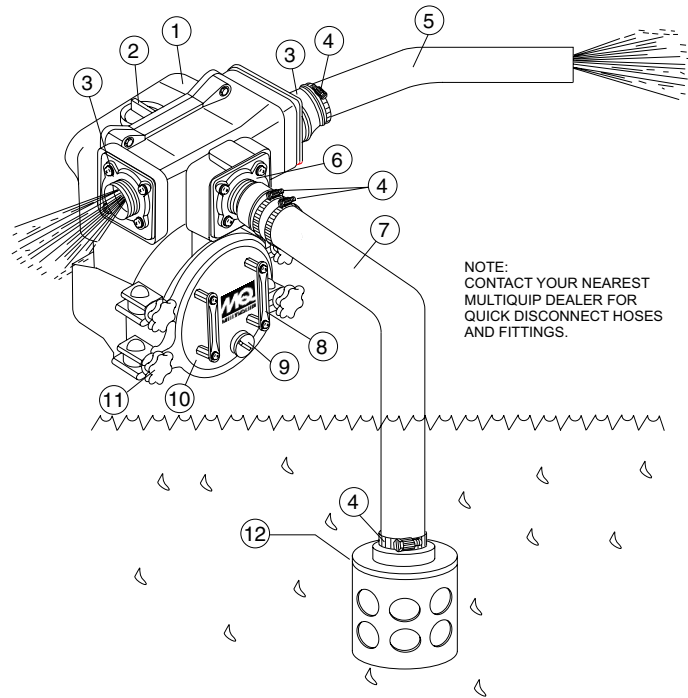

Figure 3. QP4TH Pump Application
Figure 3 shows a typical application using the QP4TH centrifugal pump. Please note that this pump is intended for the removal of clean water.
2. To prime pump, remove fill cap (See Figure 3) and fill pump casing with water. If the pump casing is not filled with water before starting, it will not begin pumping.
3. Attach suction and discharge hoses to the pump. Check that all hoses are **securely** attached to the pump. Make certain suction hose (See Figure 3) does not have any air leakage. Tighten hose clamps and couplings as required.
6. Check that the **discharge** hose (See Figure 3) is not restricted. Place hose so that it lays as straight as it is possible on the ground. Remove any twists or sharp bends from hose which may block the flow of water.
8. Make sure the **suction strainer** (See Figure 3) is clean and securely attached to the water end of the suction hose. The strainer is designed to protect the pump by preventing large objects from being pulled in to the pump.